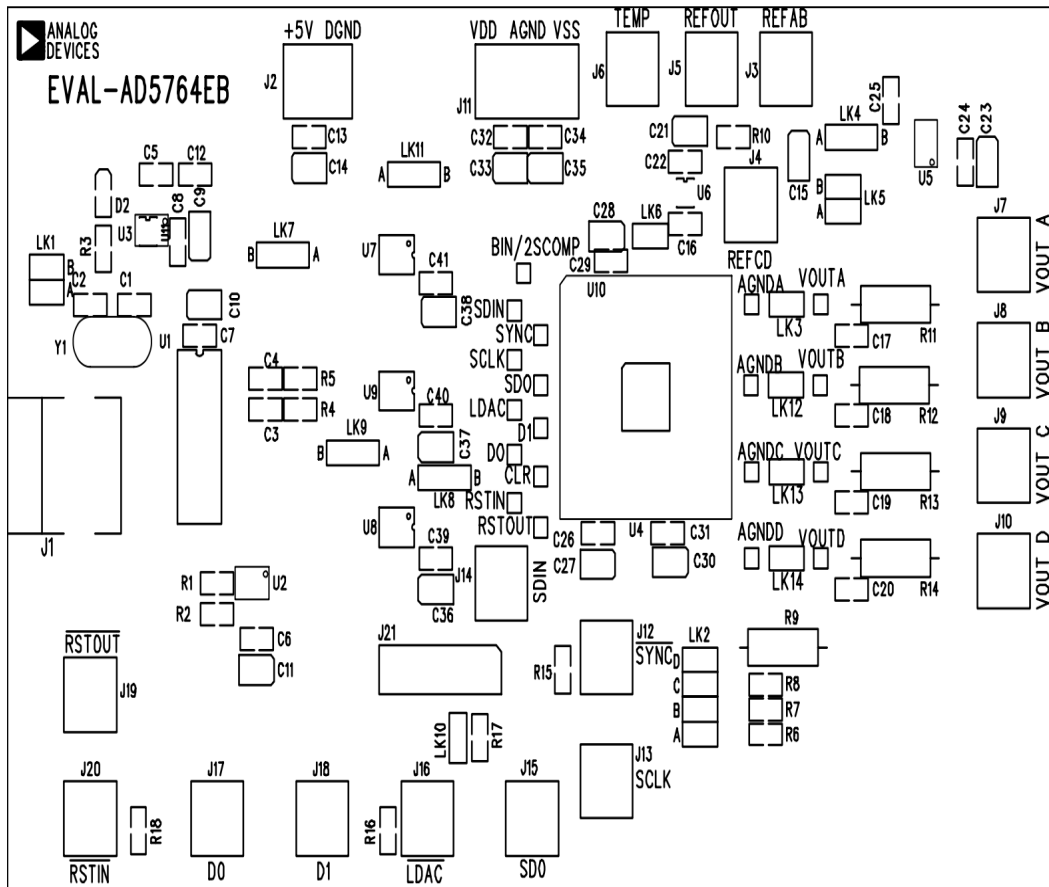

Figure 2: Image of the Evaluation board components as seen from above, with the names of the all components. Taken from [1].
2.2 Evaluation Board Setup The Evaluation Board needs two power supplies connected to it, one of 5V connected with a ground and a +5V wire to the DGND and +5V pin respectively (the same as the Pi), and one of 15 V connected with a +15V, a ground and a -15V wire to the VDD, AGND and VSS pin respectively (see figure 2) .
Figure 4: Image of J21 component on the Evaluation Board. The location of the J21 can be seen on figure 2. The top part of the image shows the J21 pin nomenclature and the bottom part shows the corresponding functions.